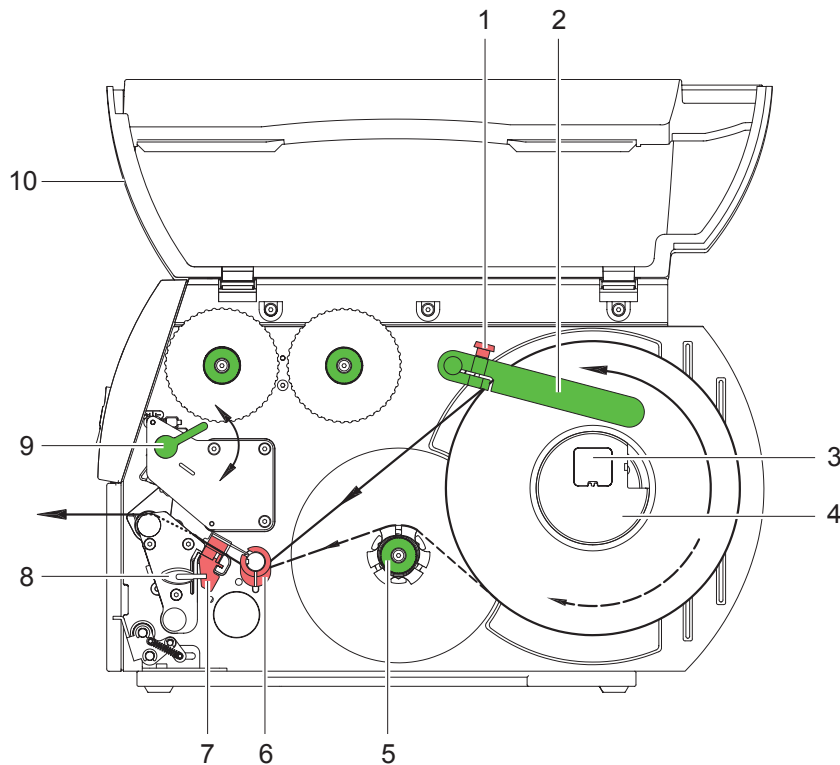

Fig. 8 Loading labels from roll
- ▶ Turn lever (Fig. 8, Item 9) clockwise to lock the printhead.